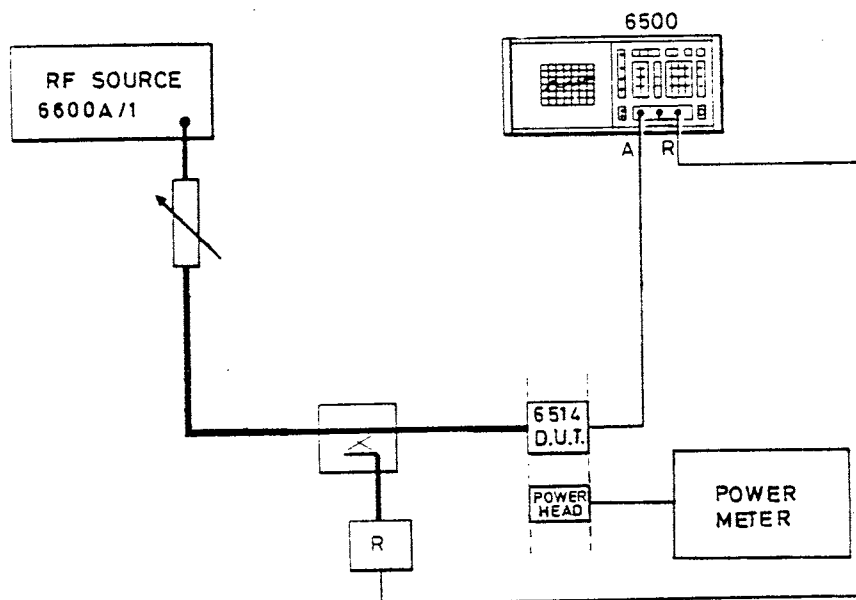

Fig. 1 Power accuracy measurement, interconnecting diagram
8. Connect an RF source capable of producing a levelled output of 0 dBm at 33 GHz, via a variable attenuator, to a high directivity directional coupler as shown in Fig. 1 below. A 6514/6500 or another power head/meter combination can be used as the monitor on the side arm of the directional coupler.